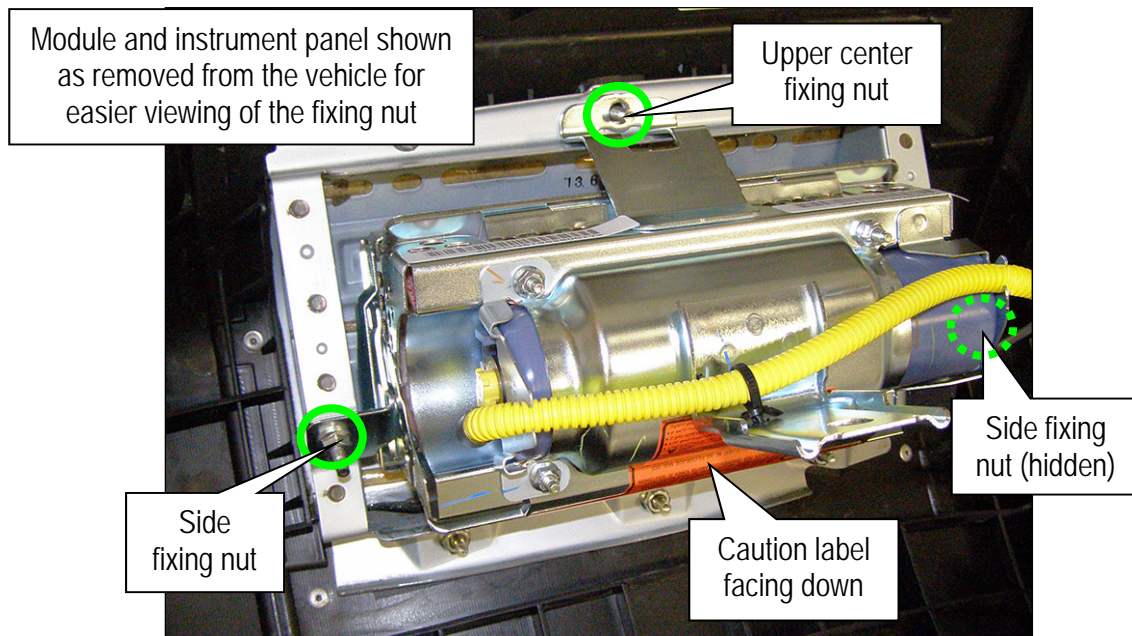
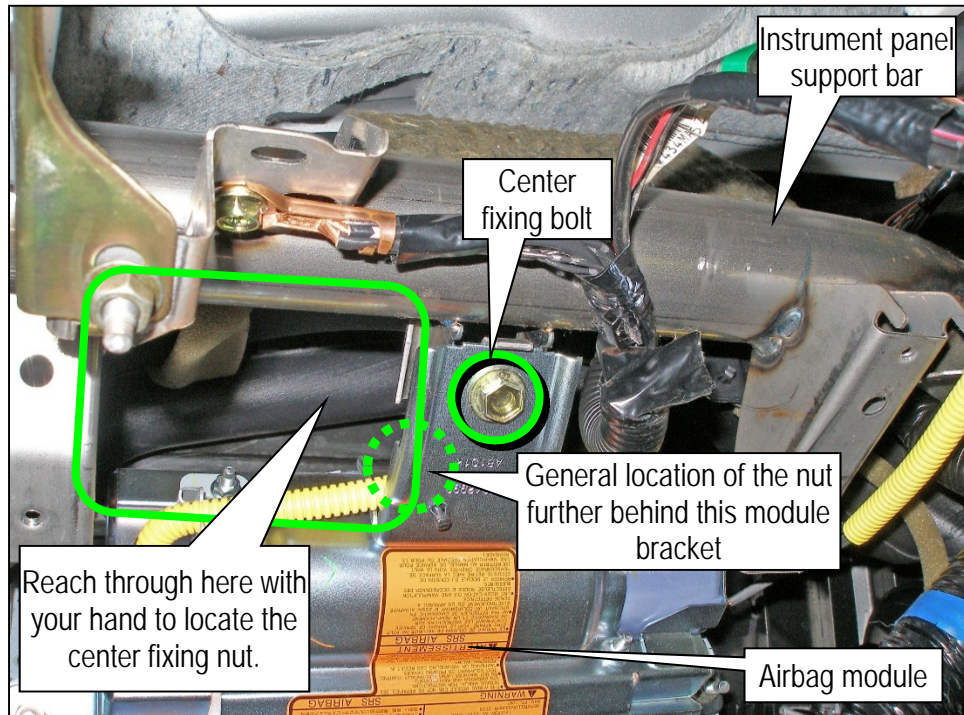
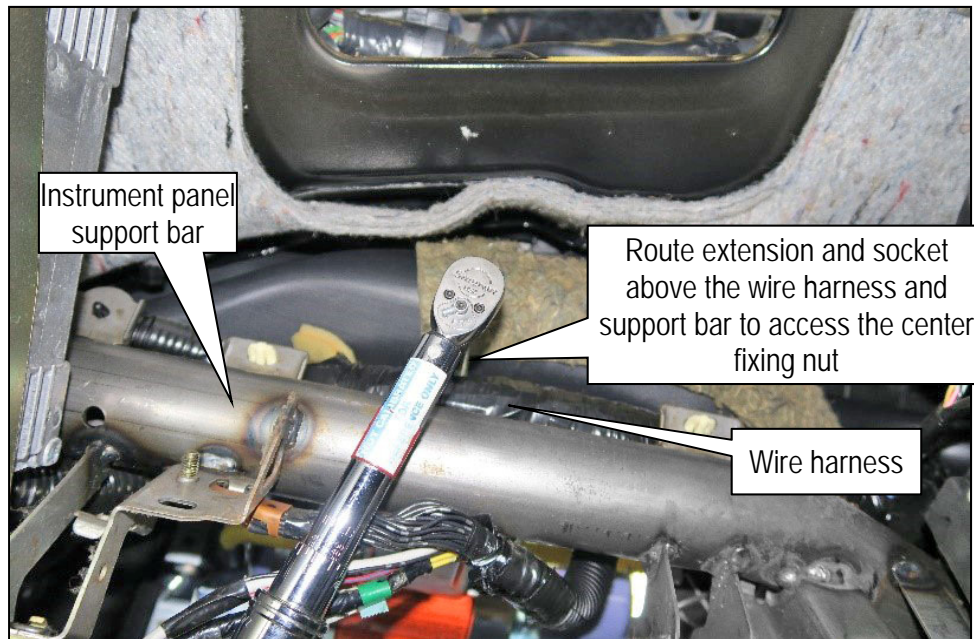

Figure 16
Figure 17
Figure 18
21. Install the new front passenger airbag module (Figure 16, Figure 17, and Figure 18).
- a. Using the three (3) new fixing nuts supplied with the replacement airbag module, secure the front passenger airbag module mounting brackets to the supports on the back of the instrument panel.
- NOTE:** One of the side fixing nuts is hidden (Figure 16).
HINT: Figure 17 and Figure 18 show the center fixing nut's general location when viewed with the case removed, and while lying on the front passenger floor with your head under the instrument panel and looking up.
- b. Install the center fixing bolt (Figure 17).